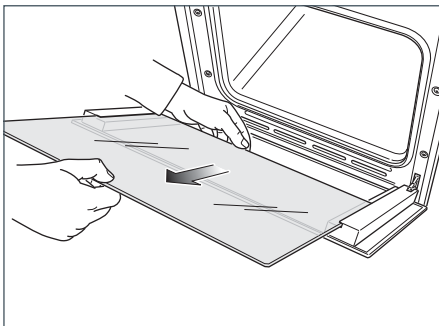

Fig.44e
- Gently pull out the inner pane of glass (Fig. 44e).